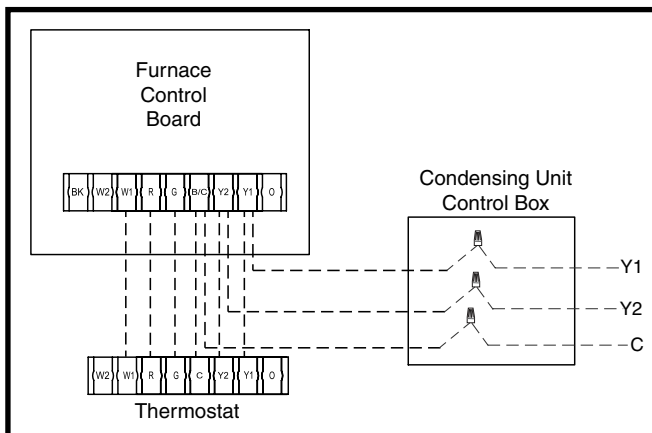

Figure 20. Low Voltage Field, Four-wire Heating/Cooling Applications
- The thermostat must be installed according to the instructions supplied by the thermostat manufacturer. Low voltage connections (24 VAC) from the thermostat are wired to the terminal strip on the integrated control in the furnace. Figure 20 \(page 20\) contains the proper connections for heating only (two-wire) and heating/cooling (four-wire) applications. Recommended minimum wire gauge for thermostat wiring is shown in Table 5 \(page 20\).